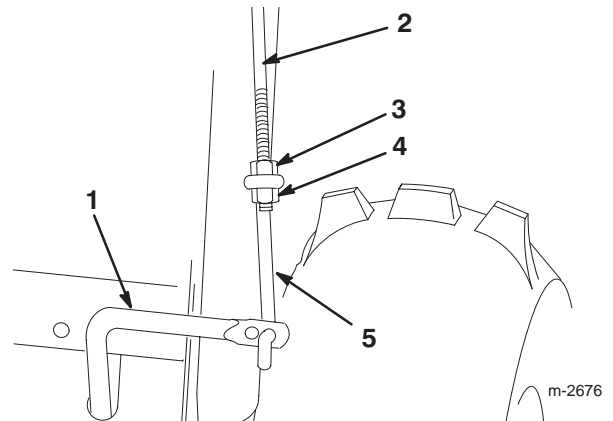

Figure 12
1. Thread a flange nut (flange side down) onto the upper control rod located on the right side of the handle assembly (Fig. 12).
2. Install the lower link through the outer hole in the lower control rod as shown in Figure 12.
3. Insert the upper control rod through the loop in the lower link (Fig. 12).
4. Thread a flange locknut (flange side up) onto the bottom of the upper control rod below the loop in the lower link (Fig. 12).
7. Adjust the flange nut and the flange locknut (Fig. 12), if necessary, to obtain the proper dimension between the top of the handgrip and the bottom of the auger/impeller drive control lever.